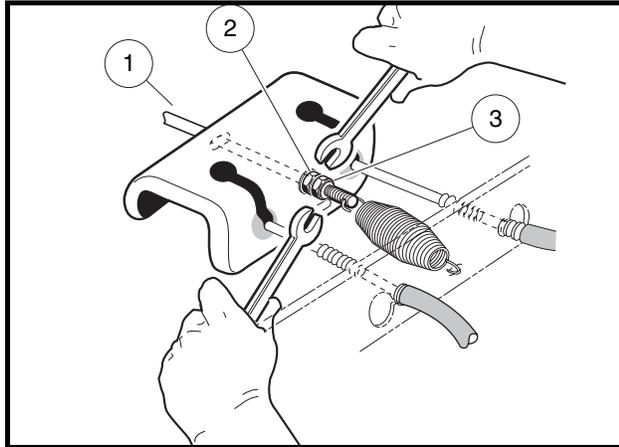

Figure 5-9 Loosen Rear Brake Equalizer Rod Nuts
- 2.2. To provide slack in the brake cables, loosen the equalizer retaining nuts (2 and 3) on the equalizer rod (1) (**Figure 5-9, Page 5-12**).